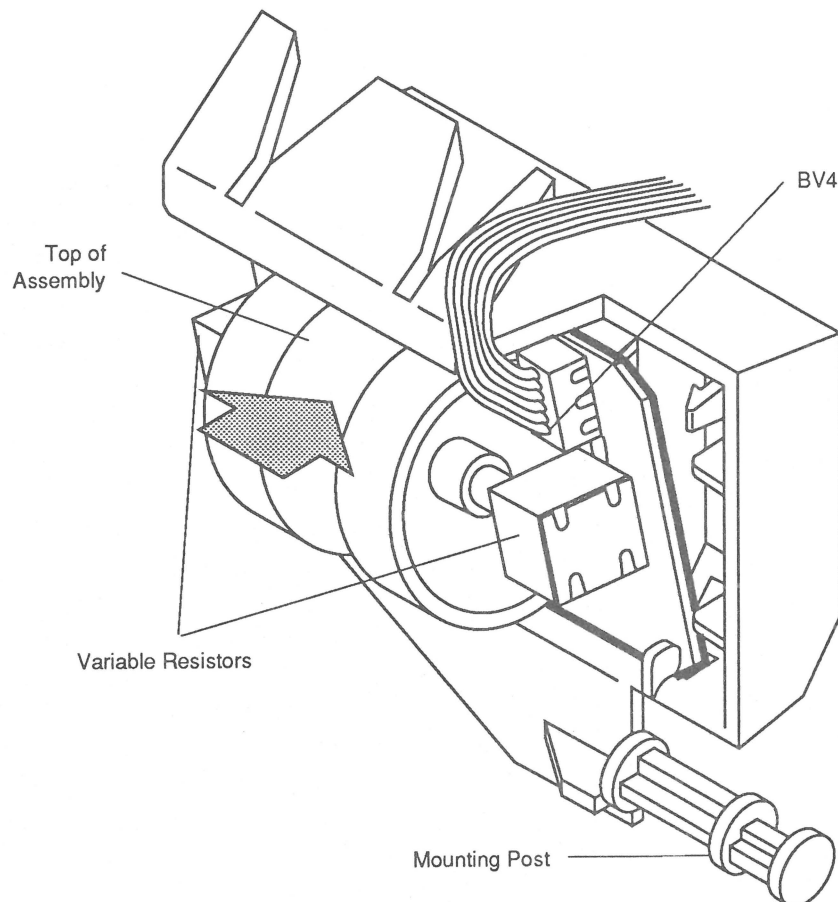

Figure 2-8 Contrast/Brightness Assembly
1. Insert the six wires from the contrast/brightness assembly into the holes at BV4. Orient the cable so the red wire faces the upper edge of the PCB (**Figure 2-8**).
4. Snap the contrast/brightness assembly into the main deflection PCB mounting frame by applying downward pressure to the top of the assembly (**Figure 2-8**). The mounting post will snap into position.